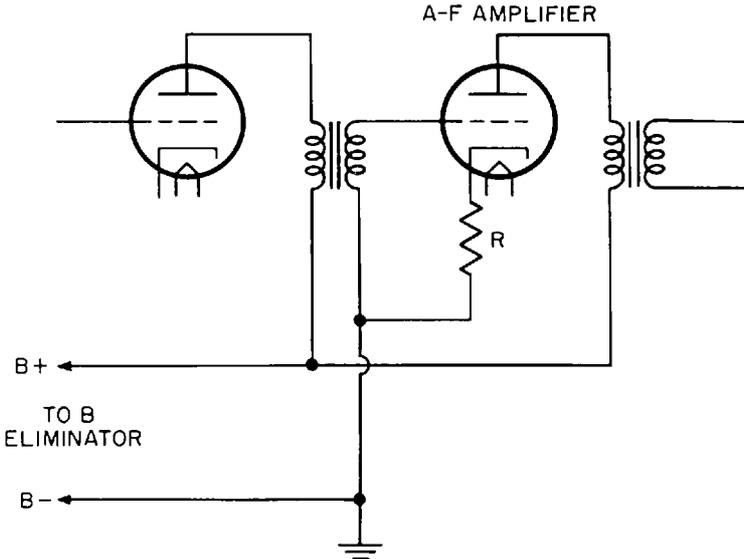

Fig. 20-3. Circuit showing how a cathode resistor (R) is used to get grid bias
The cathode, however, is not connected directly to the negative terminal of the B eliminator, but through a resistor (R), as in Figure 20-3. To understand this hookup, compare the pathways of electrons from the B-battery eliminator to the grid and to the cathode, respectively. As the cathode shoots off electrons, other electrons are drawn up from the large supply on the negative terminal of the B eliminator. But some of the electrical pressure is lost in pushing these electrons through the resistor, and a voltage drop occurs across the resistor. In this hookup, then, the cathode is slightly less negative than the negative terminal of the B eliminator.
**Preventing Amplification Loss with a Bypass Capacitor.** If you examine Figure 20-3, you will notice that the cathode resistor is in the plate circuit. The electrons stream up from the negative terminal of the B eliminator, through the cathode resistor to the cathode, across to the plate and through the primary winding of the second transformer, and back to the positive terminal of the B eliminator.